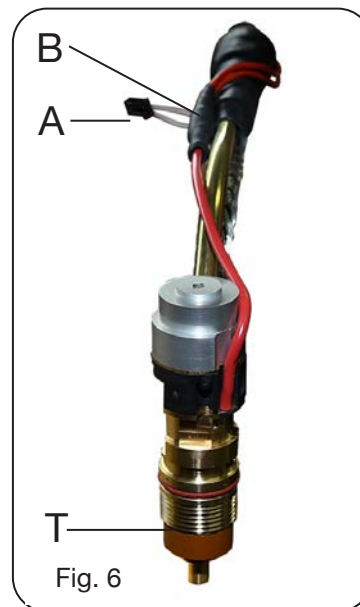

Fig. 6
- Replace the welding torch cable, manually screw fittings **D** and **E** according to the arrow direction - Fig.6.